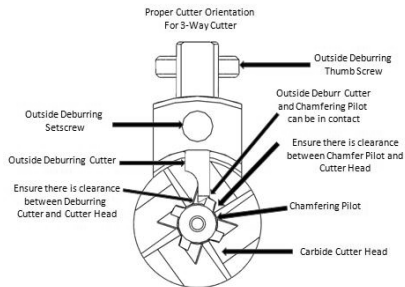

Figure 1
1. Insert Chamfering Pilot (F), 6-32 x 1/8 Setscrew (H) and 8-32 x 1/8 Setscrew (G) into the Carbide Cutter Head (J). The 6-32 x 3/8 Setscrew (H) is used to adjust the amount of inside case mouth chamfer. The 8-32 x 1/8 Setscrew (G) is used to secure the Chamfering Pilot (F). Use a sized and de-primed case, ready to be trimmed, and place the case mouth over the Chamfering Pilot (F).
2. Make appropriate adjustments to the 6-32 x 3/8 Setscrew (H) to allow the case to rest on the cutting flutes of the Carbide Cutter Head (J). Once set, remove case and apply downward pressure to the nose of the Chamfering Pilot (F). Secure the Chamfering Pilot (F) in place with the 8-32 x 1/8 Setscrew (G). Ensure cutter orientation is similar to that in Figure 1. Final adjustments will be discussed later.
3. Insert the assembled Carbide Cutter Head (J) into the 3-Way Cutter Holder (A), ensure the back of the cutter bottoms out against the 3-Way Cutter Holder (A) and orientation of cutter is similar to what is shown in figure 1. Secure the assembled Carbide Cutter Head (J) in place with the 8-32 x 1/8 Setscrew (I) and make sure the 8-32 x 1/8 Setscrew (G) is accessible, for adjustment, as shown in Photo 2.
4. Insert the Outside Deburring Cutter (C) into the 3-Way Cutter Holder (A). Use case from step one, place over the Chamfering
- Lower the Outside Deburring Cutter (C) until it just makes contact with the case, by rotating Thumb Screw (B) clockwise, and tighten the Outside Deburring Cutter Setscrew (D) to secure Cutter in place. NOTE: the Outside Deburring Cutter (C), should just make contact with the case. Do not drive cutter into the case as this can cause damage to the cutter. Remember when you deburr a case all you want to do is remove any burrs from the case mouth. Final adjustments will be discussed later.
- Ensure Cutter Orientation is similar to that in Figure 1.
- To adjust the inside case mouth chamfer, remove the cutter from the trimmer, loosen the 8-32 x 1/8 Setscrew (G) while holding pressure on the end of the Chamfering Pilot (F) with your finger and adjust the 6-32 x 3/8 Setscrew (H), at the rear of the cutter, clockwise to increase the amount of chamfer and counter clockwise to decrease chamfer. NOTE: A 1/8th of a turn on the adjustment screw will change the chamfer depth by .004". Once set, retighten the 8-32 x 1/8 Setscrew (G).
- To adjust amount of outside case mouth chamfer, the cutter can remain on the trimmer, loosen the Outside Deburring Cutter Setscrew (D) and rotate the Thumb Screw (B) clockwise to increase amount of chamfer and counter clockwise to reduce amount of deburr. NOTE: An 1/8th of a turn on the Thumbscrew will change the deburr depth by .002". Once cutter is set, retighten the Outside Deburring Cutter Setscrew (D).
- Ensuring the cutter orientation is the same as what is shown in figure 1, will reduce the amount of brass chips that can build up around the Outside Deburring Cutter and the Chamfering Pilot Cutter.